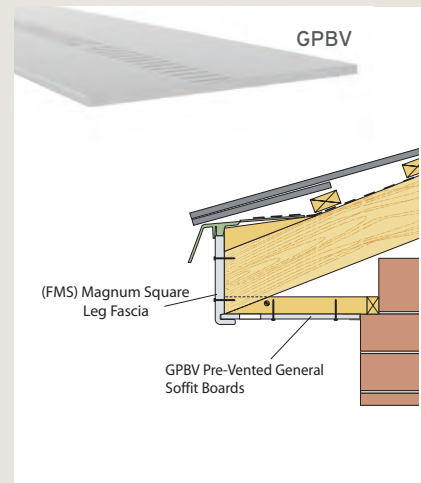

Fig. 20e. GPBV Pre-Vented General Purpose Board in conjunction with FMS Fascia.
The various combinations of fascia, soffit and ventilator that can be used for pitched or flat roof situations are shown in Figures 20e and 20f.
**Figure 20e** shows a typical GPBV Pre-Vented General Purpose Board, in conjunction with a Magnum Fascia.